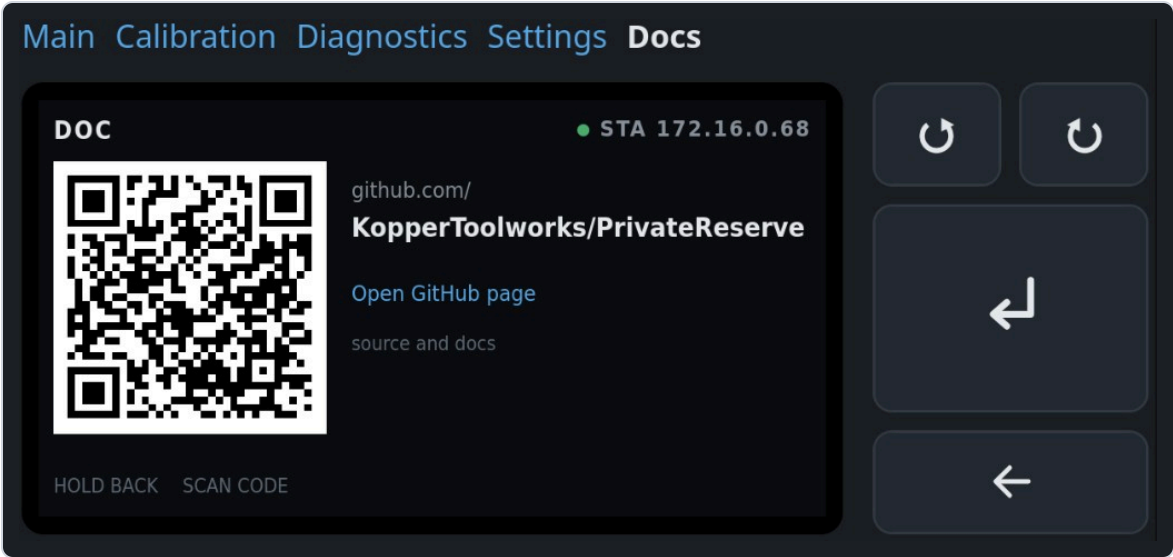

Figure 1. Full web UI in landscape. Tabs jump modes. The keypad maps to the EC11.
**Draft.** These pages describe the operator screens as built. Each option has a 320 × 170 panel shot. Every label on that shot is named in a field table on Main, Calibration, Diagnostics, and Settings. The web page adds tabs and a keypad; figure 1 is a full-chrome example. Pixel source: UI mockups. Motion, obstruction, and NVS names remain specified in `Production_Software.md` and `T-Display-S3_Firmware_Config.md`.
| Web (port 80) | Same screens. Tabs jump to Main, Calibration, Diagnostics, Settings, or Docs. Keypad on the right: turn – / +, press (Return), hold (back). Figure 1. |